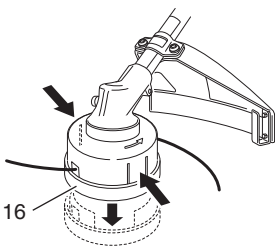

Fig. 21
- (1) Remove the case (16) by firmly pushing inward the locking tabs with your thumbs as shown in Fig. 21.